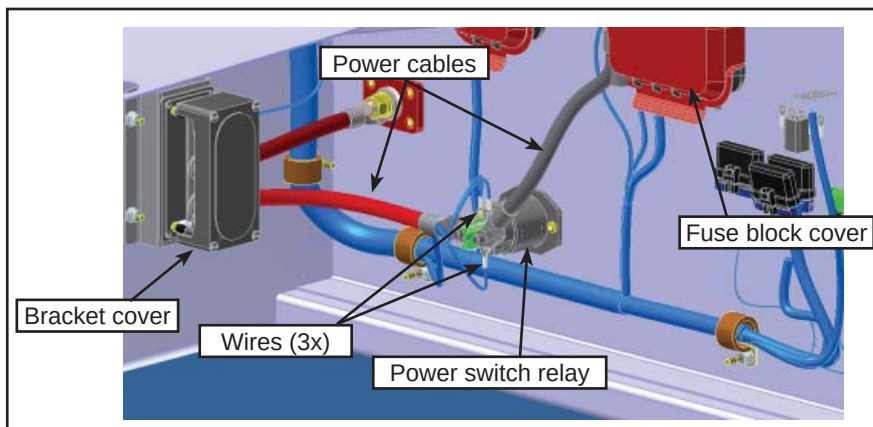

Figure 3 - Part Locations
- 1.5. Remove the bracket cover. See Figure 3. Retain the hardware.
- 1.6. Remove the the fuse block cover. See Figure 3. Retain the hardware.
- 1.7. Remove the two power cables from the relay. See Figure 3. Discard the hardware.
- 1.8. Remove the two cables from the bracket and fuse block. See Figure 3. Discard the cables but retain the hardware.
- 1.9. Mark the location of the three wires on the relay. See Figure 3.
- 1.11. Remove the relay from the vehicle. See Figure 3. Discard the relay and the hardware.